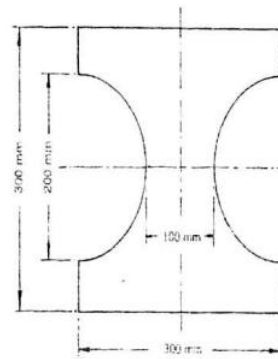

Fig. 7
5. A beam simply supported at ends and having cross-section as shown in Fig. 7 is loaded with a UDL, over whole of its span. If the beam is 8m long, find the UDL, if the maximum permissible bending stress in tension is limited to $30\text{MN}/\text{m}^2$ and in compression to $4530\text{MN}/\text{m}^2$. What are the actual maximum bending stresses set up in the section? **(20)**